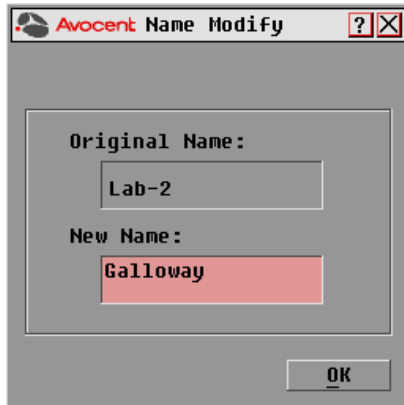

Figure 3.11: OSCAR Interface Name Modify Dialog Box
1. In the Names dialog box, select a target device name or port number and click *Modify* to open the Name Modify dialog box shown in Figure 3.11.